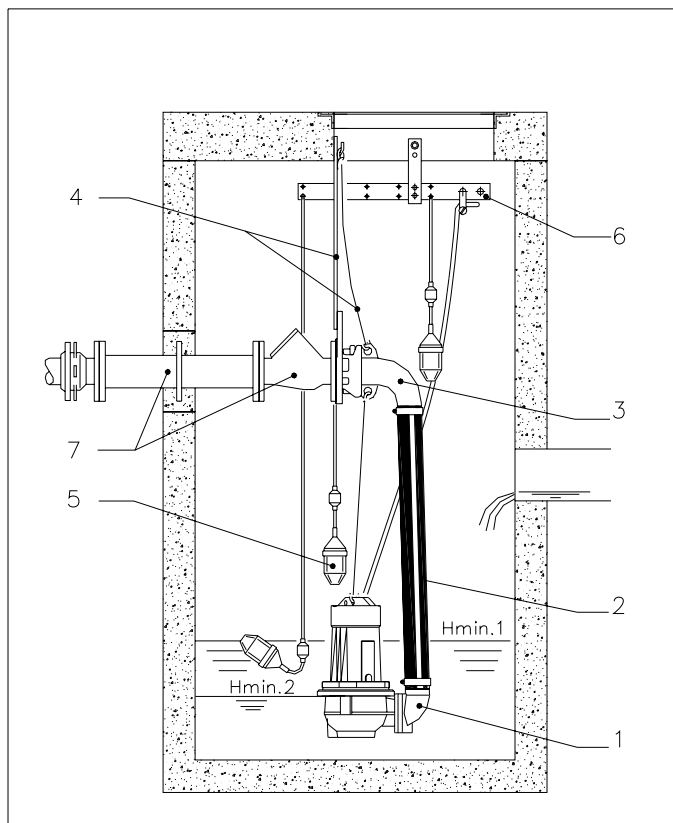
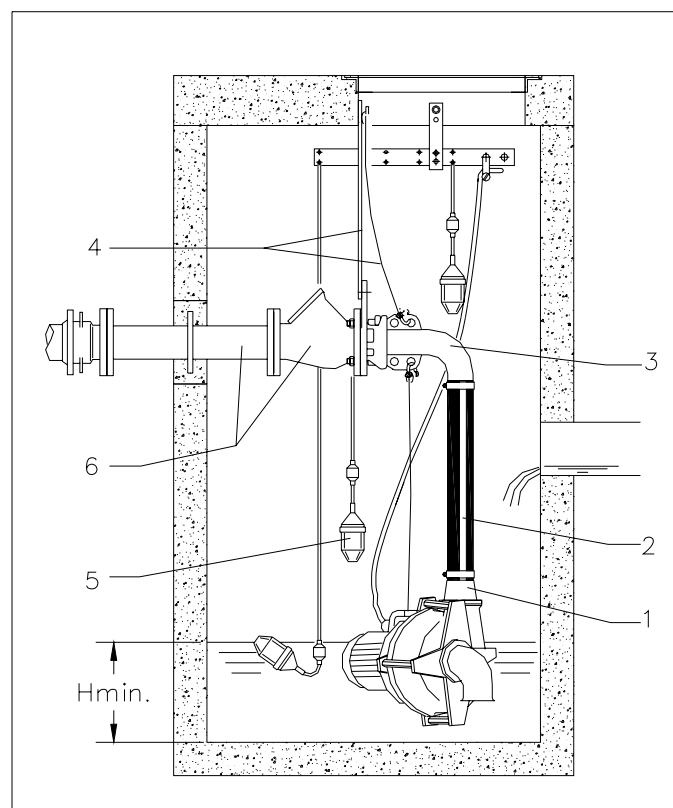

Fig. 6.1
Fig. 6.2
RD20 pumps will have a vertical position, see Fig. 6.1. All other RD pumps are horizontally placed, see Fig. 6.2.
- Check that the motor is adequately cooled. The motorhousing should be at least 2/3 submerged for continuous operation at full load (see Hmin.1 Fig. 6.1). It is good practice, whenever possible to keep the motorhousing completely under water. For interrupted level controlled operation, less cooling is required. We recommend not to run the pump with the water level below the top of the volute in order to avoid air being drawn in (see Hmin.2 Fig. 6.1). Air in the discharge pipes might impair performance.